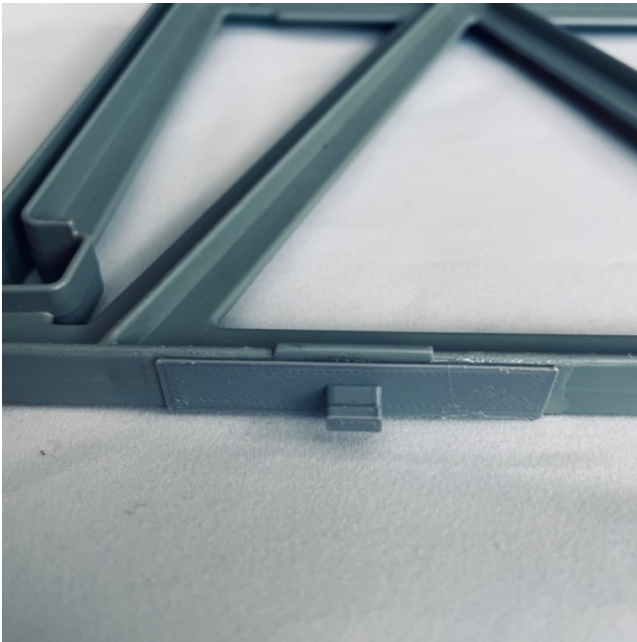

Figure 1: Elevator Side Support Tab Placement
STEP 2: The “Elevator Side Supports” have only one regular tab on the top of each support. These are the easiest tabs to replace because the frame is slightly wider in this area and provides a good visual for placement (see Figure 1). Use the E6000 glue and place the appropriate tab in the proper location.